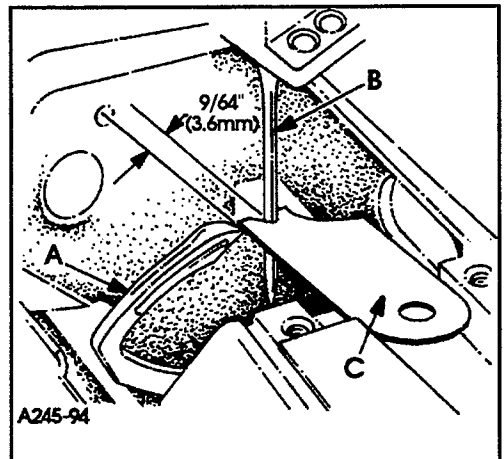
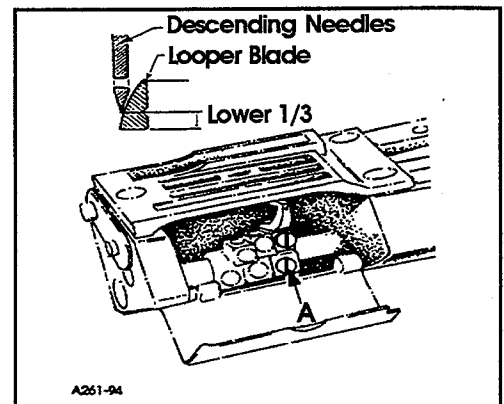

FIG. 6
FIG. 7
Insert a new set of needles, type and size specified. Always adjust the looper (A, Fig. 6) for the left needle first. Set the looper so that the distance from the center of the needle (B) to the point of the looper (A) is $\frac{9}{64}$ " (3.6mm) when the looper is at its farthest position to the left. Looper gauge (C) No. 21225-9/64 can be used advantageously in making this adjustment. If adjustment is required, loosen screw (A, Fig. 7) in looper holder, permitting movement in either direction to attain the $\frac{9}{64}$ " (3.6mm) dimension as shown in Fig. 6. Retighten screw (A, Fig. 7). Repeat for other needles and loopers.
Rotate handwheel in operating direction to assure that the looper point passes to the rear of the needle as close as possible without contacting. This adjustment can be made by loosening screw (A, Fig. 7) in looper holder. Looper holder can be moved front to back to attain looper to needle setting. Always check the $\frac{9}{64}$ " (3.6mm) looper gauge setting after setting the looper to the back of the needle, and conversely, always check the setting of the looper to the back of the needle after setting the $\frac{9}{64}$ " (3.6mm) looper gauge.
The looper avoid motion is adjustable and should be set so that the descending needle points contact the lower 1/3 of the back of the looper blade. (See Fig. 7).